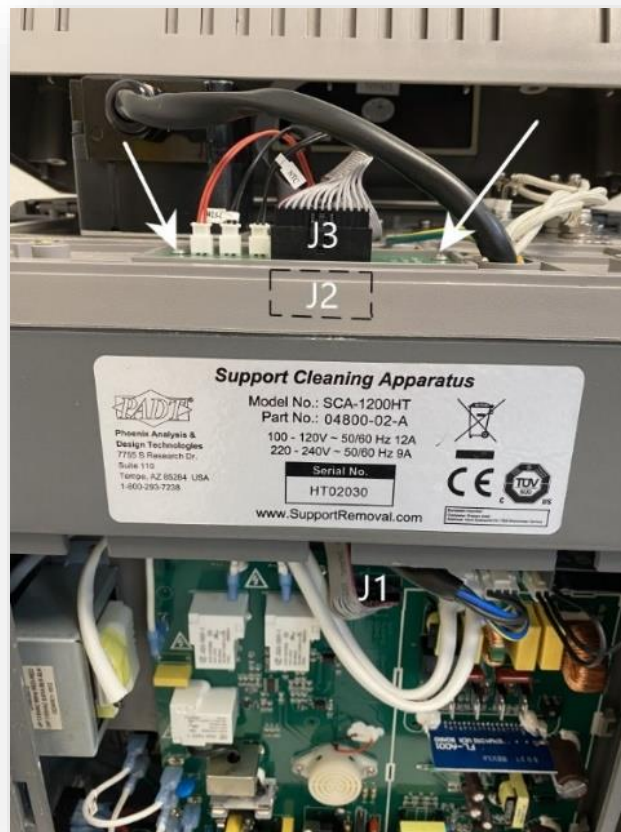

Figure 50 – Control Panel Connections
- b. Reseat (unplug and plug back in) the J1, J2 and J3 cables from the Connector Board and from the PCB (See Figure 50). The J2 connector can be accessed by removing the 4 screws on the Connector Board and pulling the card up.